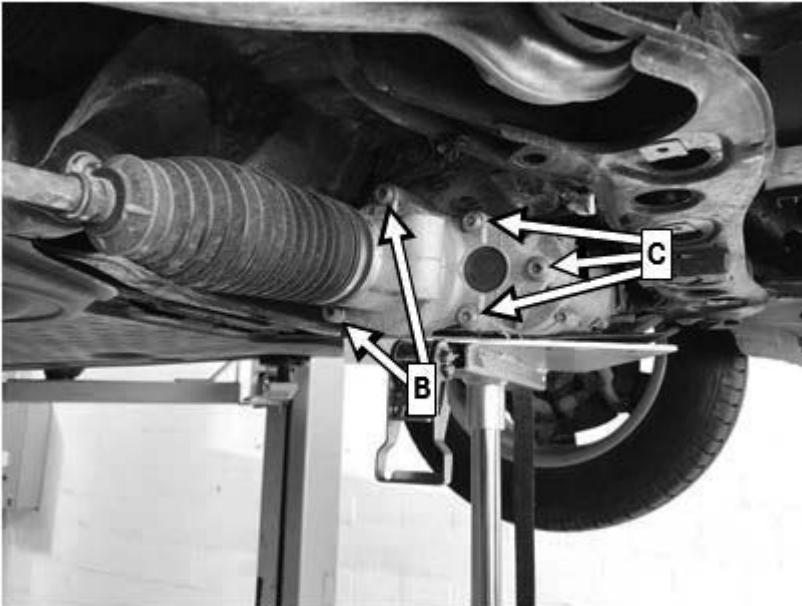

Figure 2
4. Remove screws (B and C, Figure 2), making **absolutely sure** to do so **individually and one after the other**, replace with new steel screws and tighten with the specified torque incl. tightening angle.
2. Remove screws (B and C, Figure 2), making **absolutely sure** to do so **individually and one after the other**, replace with new steel screws and tighten with the specified torque incl. tightening angle.